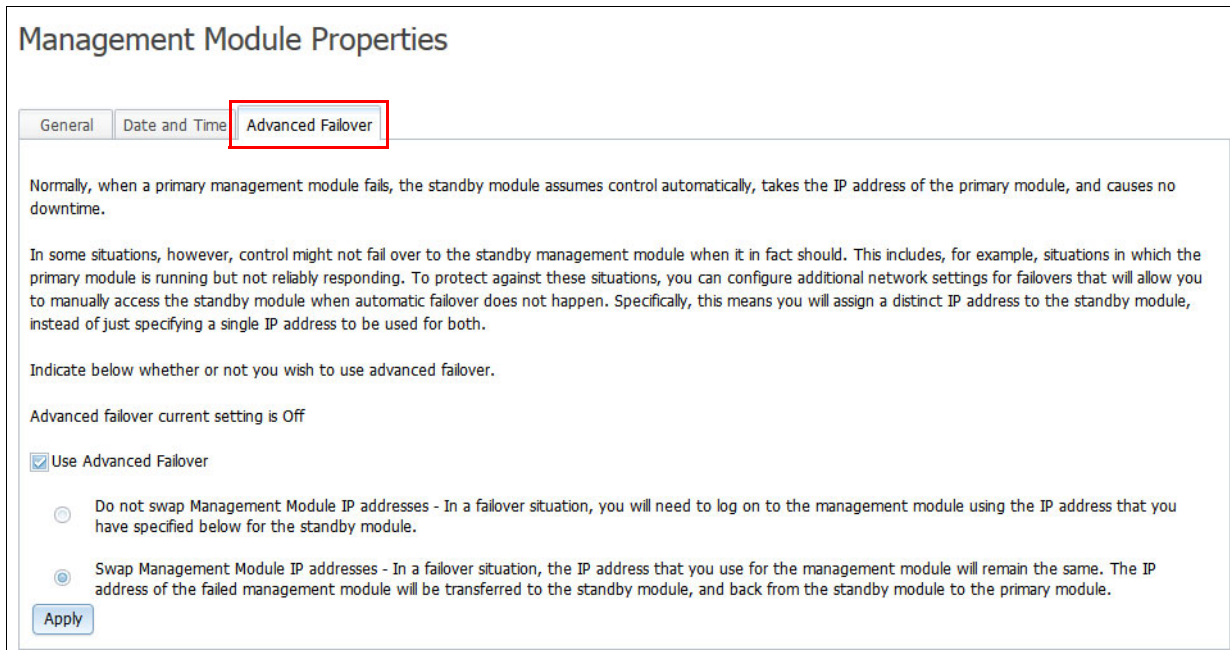

Figure 4-26 Failover menu
2. Click the **Advanced Failover** tab in the Management Module Properties window, as shown in Figure 4-26.